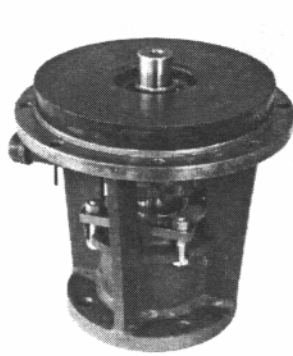

Figure 3-33
Install the plate and tighten the two (2) retaining nuts only hand tight at this time. This allows the wear plate to center when the rotating assembly is inserted into the volute. See FIGURE 3-33.